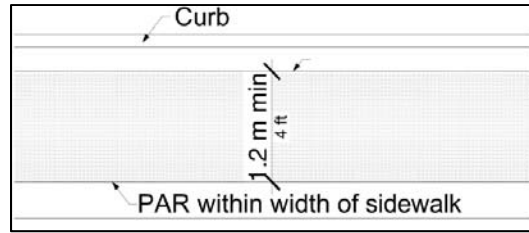

Figure 18A - Accessible Route Continuous Width
- Continuous widths are 5.0 ft. minimum, exclusive of the curb (see **Figure 18A**). If curb and sidewalk are monolithic, continuous widths are 5.5 ft. minimum. *PROWAG R302.3; TDOT Ped Standards*